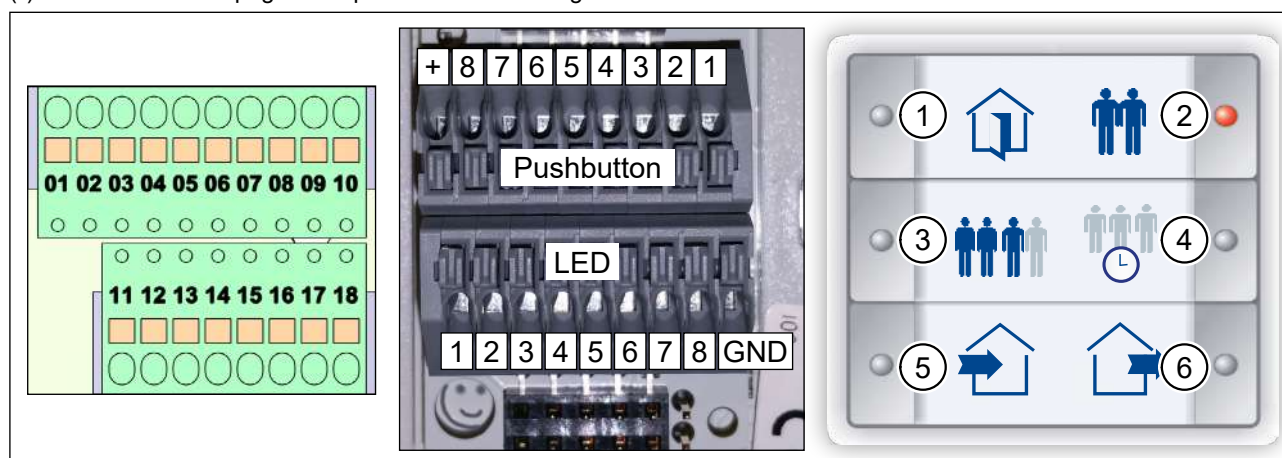

Fig. 30: Terminal blocks on ventilation unit, terminal blocks on InControl pushbutton sensor, insert sheet
- After wiring, place the insert sheet (Fig. 30) in the InControl pushbutton sensor.